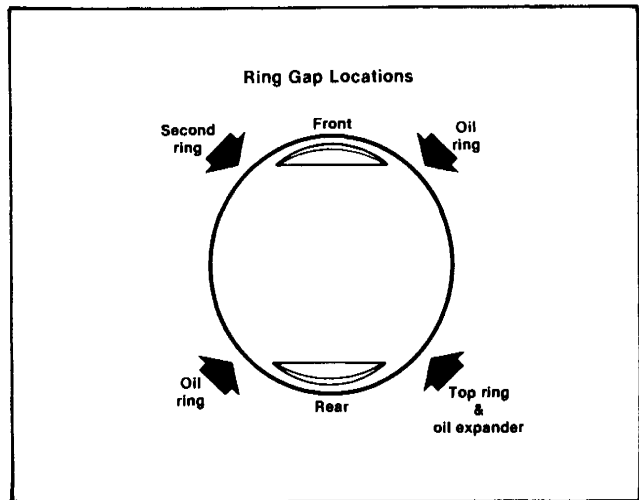

Figure 3-23. Positioning Ring Gaps
- 3. See Figure 3-23. Apply engine oil to the piston grooves. Install the new rings on the piston making sure the dot on the second compression ring is facing up. Stagger the ring gaps.
2. See Figure 3-23. Be sure the piston ring end gaps are properly positioned.